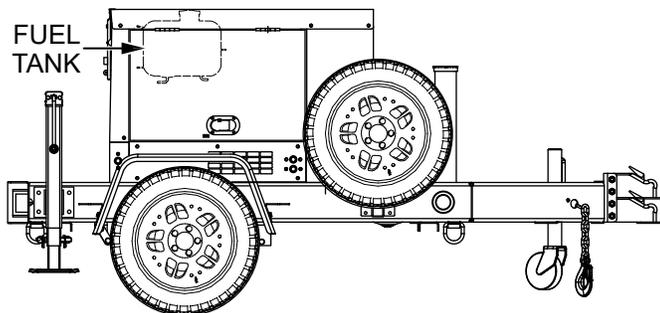

Figure 16. Fuel Tank
**ALWAYS** fill the **fuel tank** (Figure 16) with clean, fresh **#2 diesel fuel**. **DO NOT** fill the fuel tank beyond its capacity.